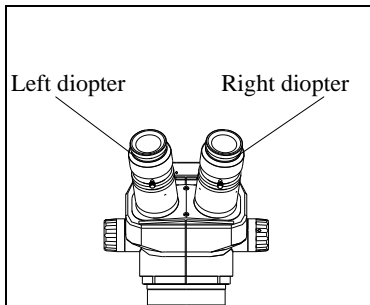

Figure 4
- (1) Turn the focusing knob to Max. magnification.
- (2) Turn the both eyepiece tube at "0" position.
- (3) Observe through right tube. If the image is not clear, use focusing knob to make it clear.
- (4) Turn the focusing knob to Min. magnification.
- (5) Observe through right tube. If the image is not clear, adjust diopter to make it clear.(Fig. 4)
- (6) Turn the focusing knob to Max. magnification again. If the image is still not clear, repeat the above step (3) and (5).
- (7) Turn the focusing knob to Min. magnification, then observe through left tube. If the image is not clear, adjust diopter to make it clear. (Fig. 4)